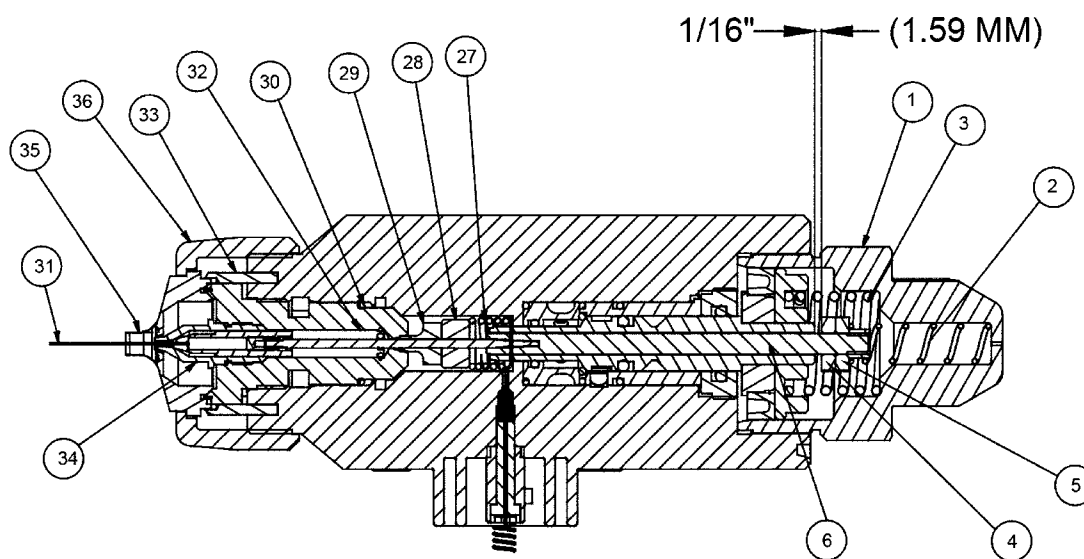

Figure 13b: Spray Head Assembly
3. Inspect the metal portion of the rear needle [6] for excessive wear. If wear is observed (longitudinal grooves or a noticeable reduction in diameter) replace the needle. Remove the two (2) lock nuts from the rear needle and save. When ever replacing rear needle section, you must also replace the seal [29] at the same time.
7. Insert the lubricated o-ring [30] into the applicator head. Gently push, with a small flat object, down upon its seating edge. Be careful not to push o-rings into fluid groove (see Figure 13b).
11. Reinstall the two (2) lock nuts [4] and [5] in the correct order on the back needle as shown making sure to maintain an 1/16" clearance (see Figure 13b).